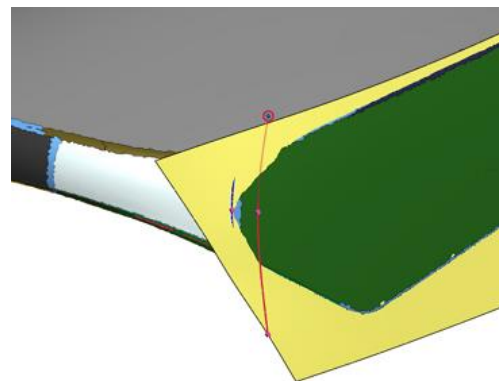

Figure 211
- Draw a second spline on the Surface Loft2 body (**Figure 211**).